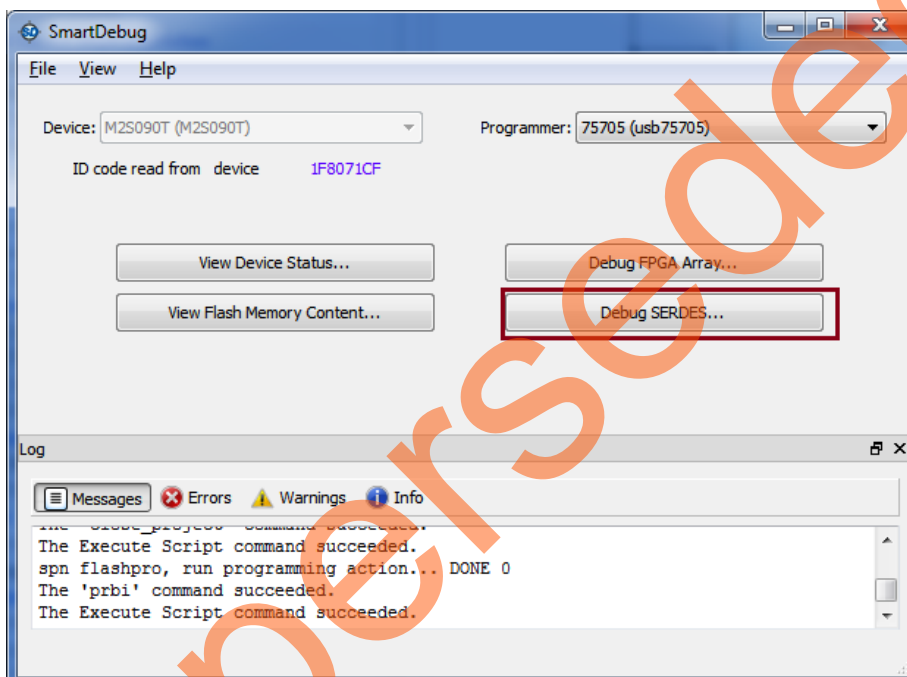

Figure 27 • Debug SERDES Operation Selection
1. On the **SmartDebug** window, click **Debug SERDES**, as shown in Figure 27.